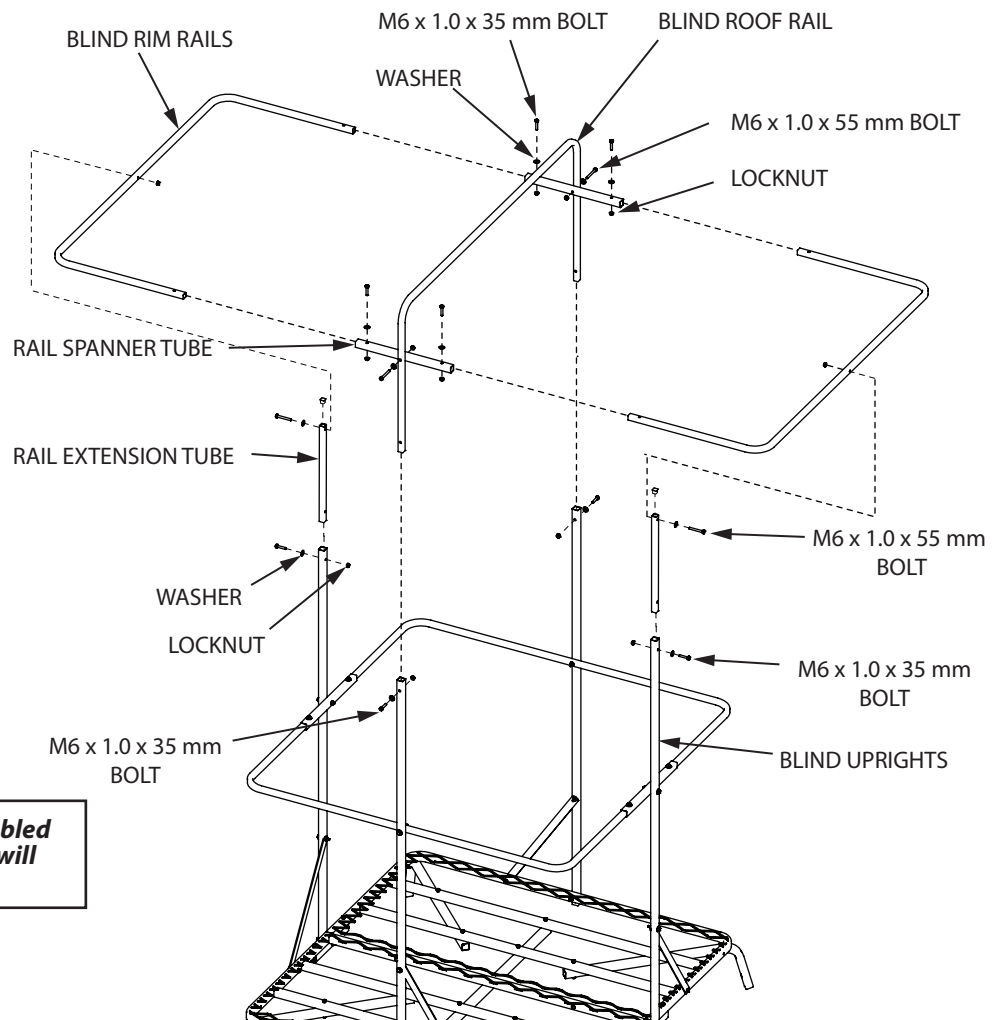

FIGURE 7
9. Insert (2) rail extension tubes (TWR27) into the two blind uprights that are attached to the outside platform joiner using (2) provided M6 x 1.0 x 35 mm bolts, locknuts and washers. **SEE FIGURE 7**
10. Insert blind roof rail (TWR28) into the two blind uprights that are attached to the long side of both platforms using (2) provided M6 x 1.0 x 35 mm bolts, locknuts and washers. **SEE FIGURE 7**
- a. Insert (2) blind rim rails (TWR19) into (2) rail spanner tubes (TWR26) forming a square. Align the four holes and insert (4) provided M6 x 1.0 x 35 mm bolts, locknuts and washers. **SEE FIGURE 7**
- b. Assemble this square to the inside the rail extension tubes and blind roof rail by attaching (2) rail spanner tubes to the blind roof rail using (2) provided M6 x 1.0 x 55 mm bolts, locknuts and washers. **SEE FIGURE 7**
- c. Attach the two blind rim rails to the two rail extension tubes using (2) provided M6 x 1.0 x 55 mm bolts, locknuts and washers. **SEE FIGURE 7. You must now tighten all nut & bolt assemblies. Be sure not to over tighten or crush tubing when tightening!**